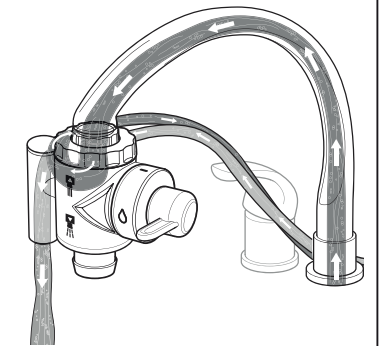

Figure 4.2 – Diverter Handle Down, Filtered Water
- Diverter handle down (horizontal) for filtered water (see Figure 4.2).